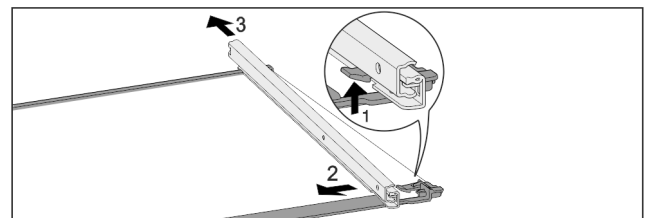

Fig. 115 Glass shelf with rails
- ▶ Push up front click-in hooks. Fig. 115 (1)
- ▶ Move the pull-out rails to the side Fig. 115 (2) and to the rear Fig. 115 (3).